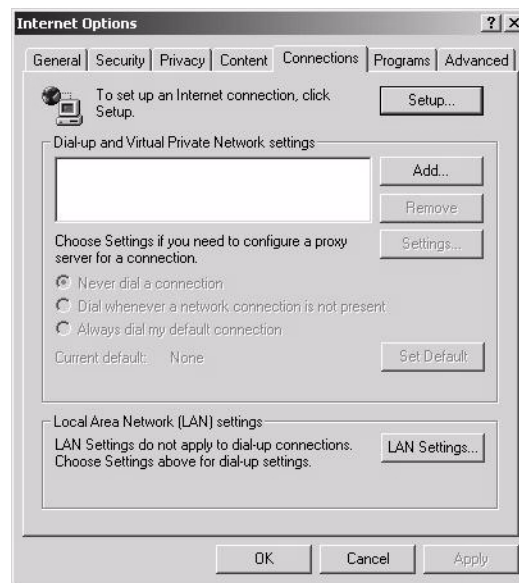

Figure 74: Selecting the Connections tab - IE
1. Turn the computer on and launch Internet Explorer (IE).
3. Select the Connections tab as shown in Figure 74.